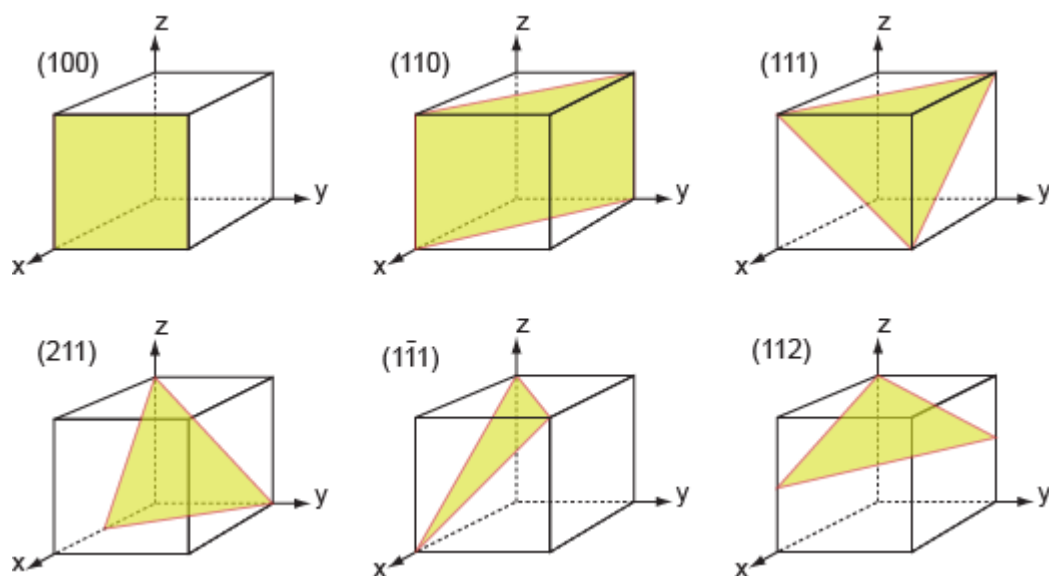

Figure C23. The procedure for finding the Miller Indices of a plane. The indices of four common planes are shown on the right.
Figure C23 illustrates how the Miller indices of a plane are found. Draw the plane in the unit cell so that it does **not** contain the origin – if it does, displace it along one axis until it doesn't. Extend the plane until it intersects the axes. Measure the intercepts, in units of the cell edge-length, and take the reciprocals. (If the plane is parallel to an axis, its intercept is at infinity and the reciprocal is zero.) Reduce the result to the smallest set of integers by multiplying through to get rid of fractions or dividing to remove common factors. The six little sketches show, in order, the (100), the (110), the (111), the (211), the ($\bar{1}\bar{1}1$) and the (112) planes; the $\bar{1}$ means that the plane intercepts the y-axis at the point -1. Check that you get the same indices.